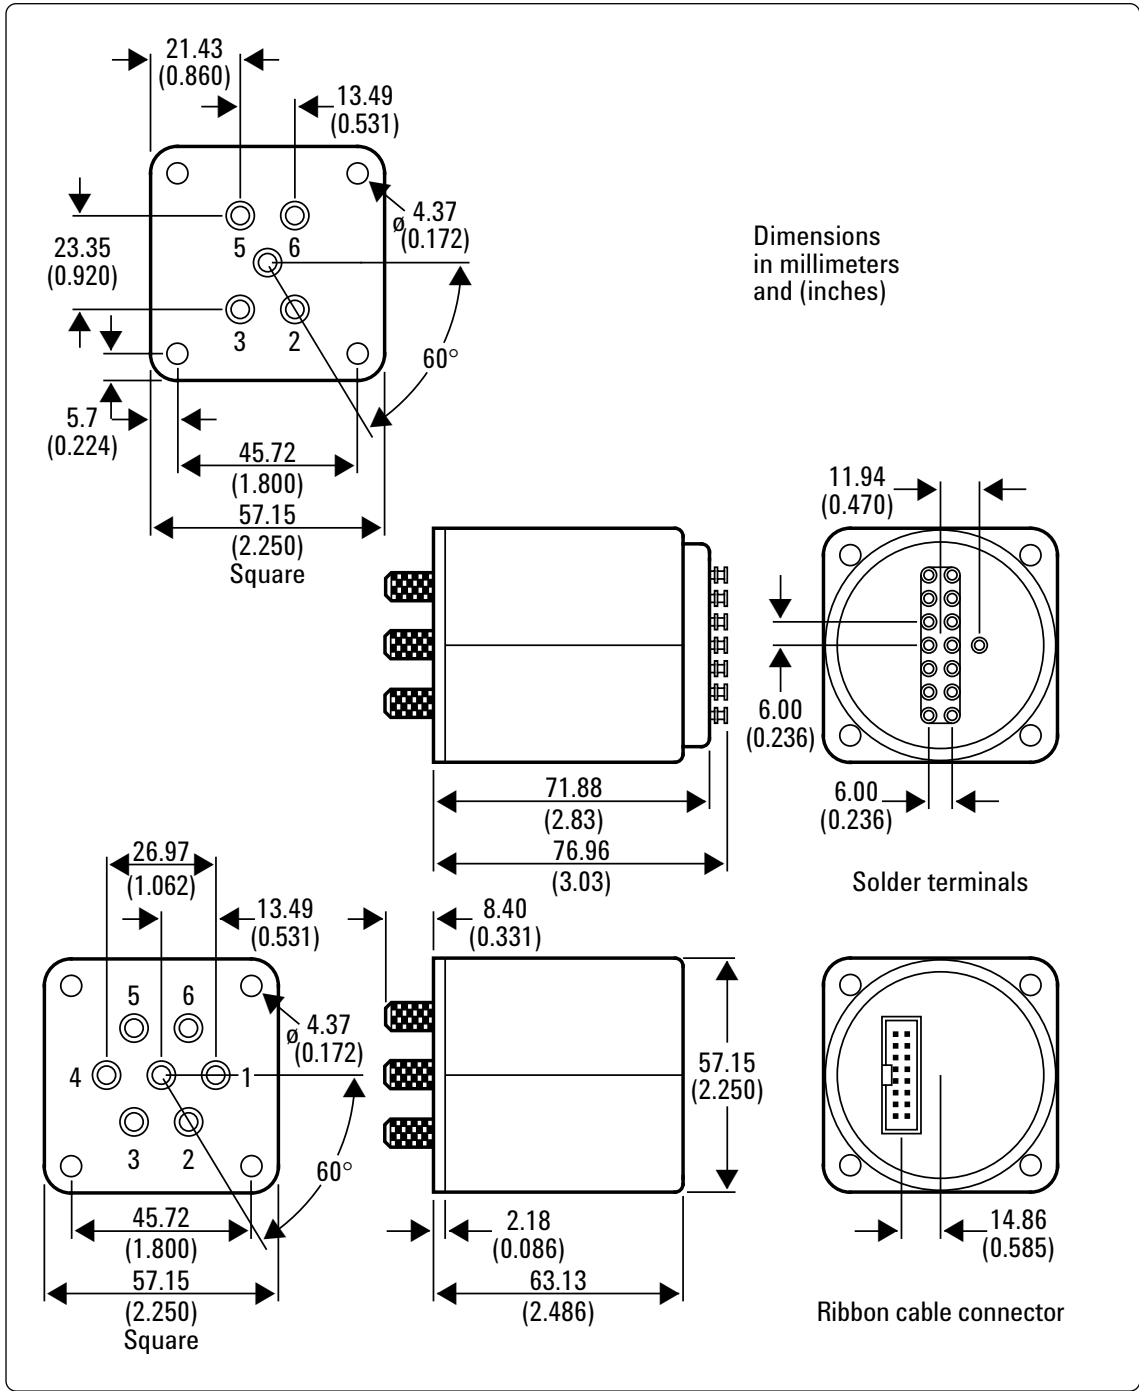

Figure 9. Product outlines
**Dimensions:** Per Figure 9 on page 10